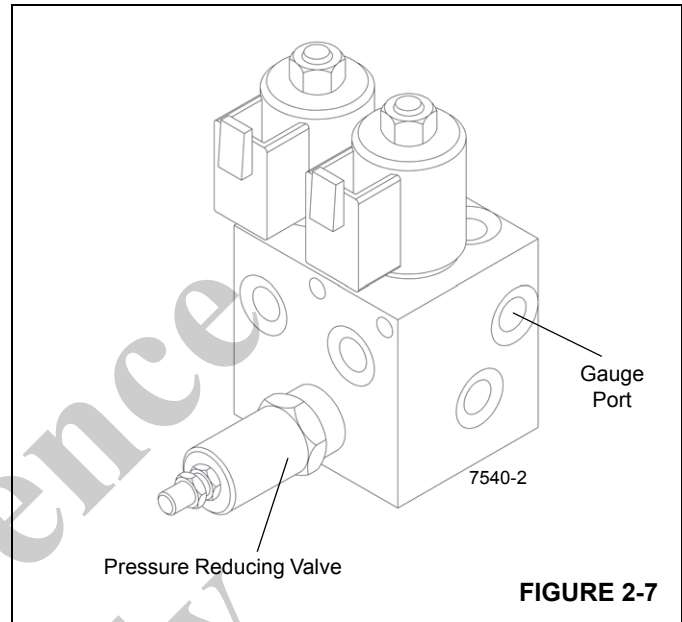

FIGURE 2-7
1. Install pressure check diagnostic quick disconnect with gauge onto test nipple at swing brake pilot supply valve test port Figure 2-7.